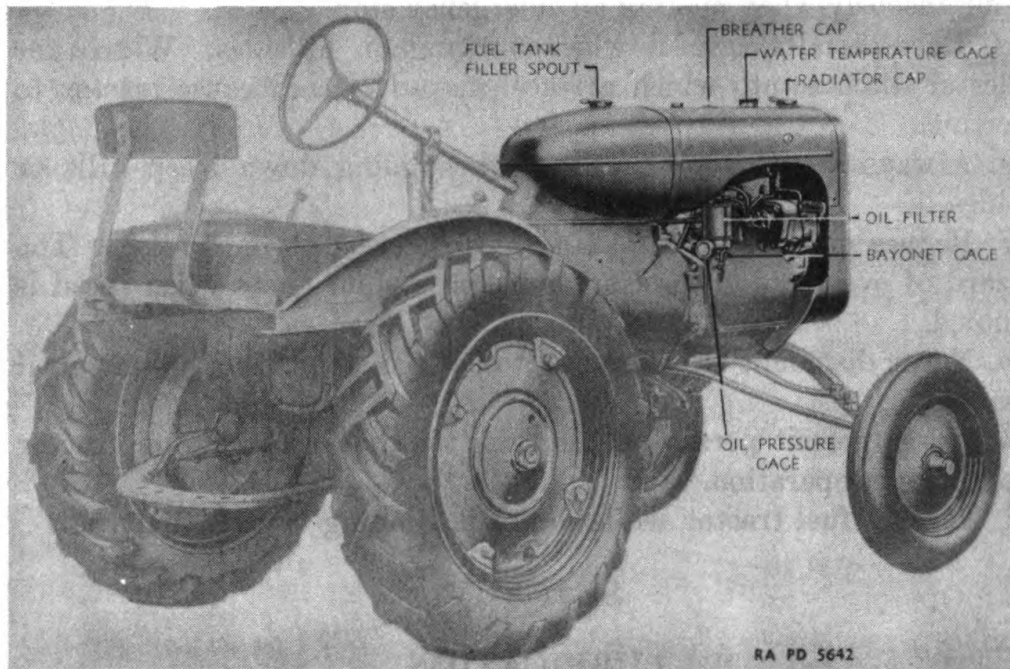

FIGURE 5.—Finding diagram.
j. After the engine is started, close the radiator shutter with the control located on the right side of the radiator shell, and keep it closed until the engine reaches normal operating temperature as indicated on the temperature gage mounted on the engine hood immediately behind the radiator cap (fig. 5). Then open the shutter sufficiently to keep the temperature normal.
b. The crankcase, or engine oil sump, is filled through the breather cap provided on the top of the engine hood (fig. 5). A bayonet gage (fig. 5) located near the oil filter on the right side of the engine is provided to indicate the quantity of oil in the crankcase; the oil level in the oil sump must be maintained to the "Full" mark on this gage. A plug, located in the bottom of the crankcase, is removed when necessary to drain the sump before refilling with fresh oil.
14. **Oil filter.**—An oil filter is provided in the engine oil pressure circuit for the purpose of removing abrasive particles from the engine oil (fig. 5). The filter element is of the removable type and should be changed as indicated on the lubrication guide.
15. **Breather cap.**—The breather cap (figs. 5 and 8) provides for ventilation of the engine sump. Should the breather become clogged with dirt, pressure will be created in the crankcase and cause oil leaks
b. The instruments should be referred to frequently to see if the engine is functioning properly. The instruments provided include a water temperature gage located on the hood near the radiator cap and an oil pressure gage mounted near the oil filter (fig. 5).